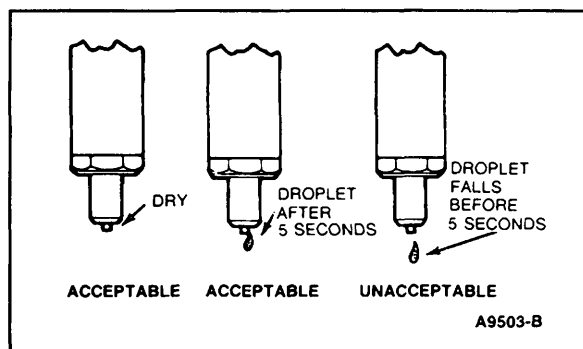

Figure 30 Nozzle Leakage Patterns
5. Check for tip leakage. Blow nozzle tip dry using filtered compressed air. Operate test pump to maintain pressure at about 1378 kPa (200 psi) below the opening pressure obtained in Test 1. Wetting of the nozzle tip is acceptable as long as a drop does not fall, within five seconds (Fig. 30).